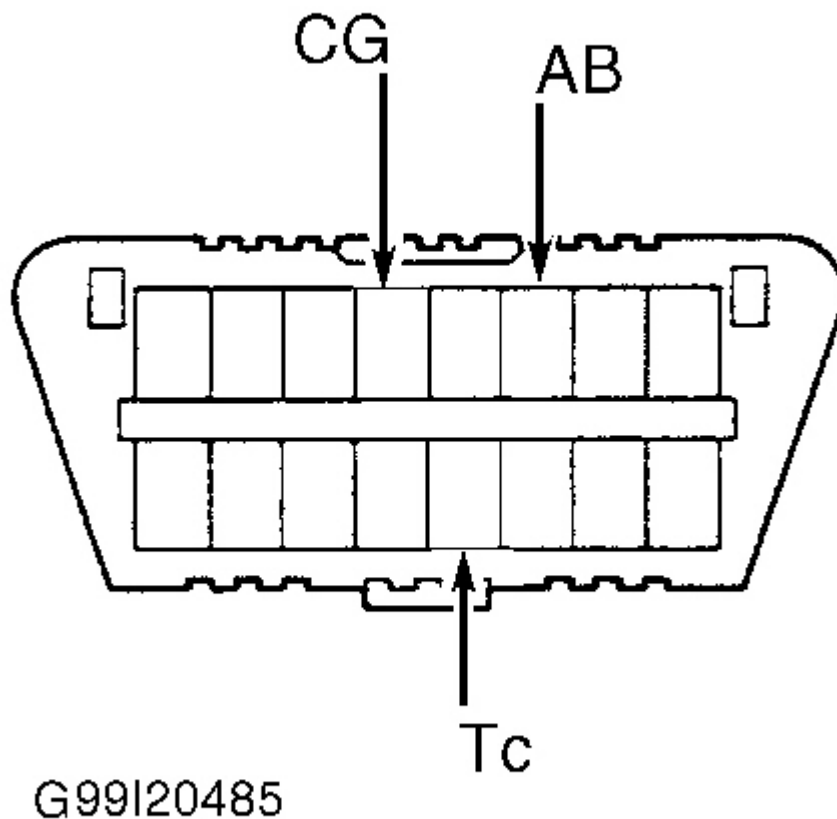
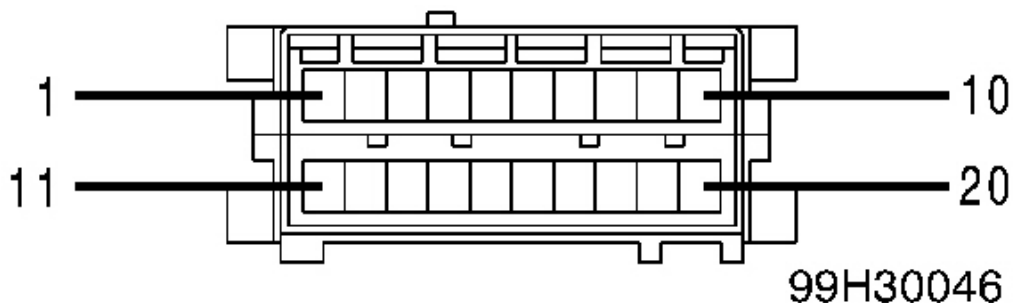
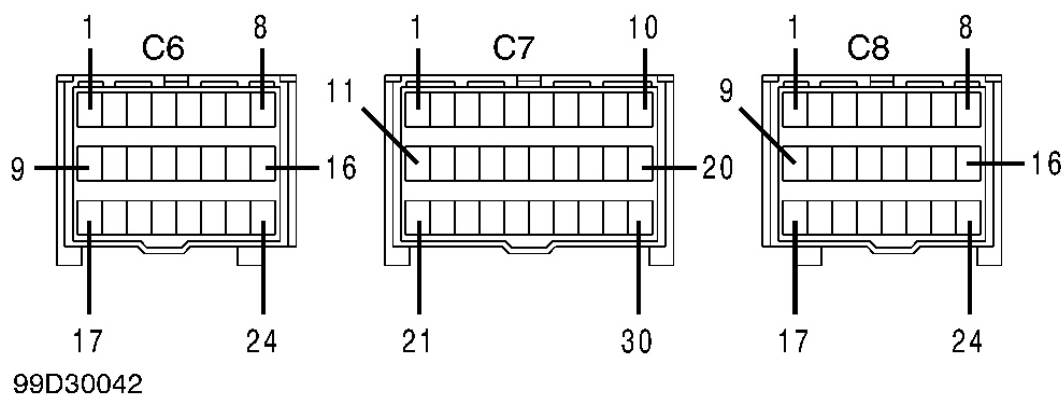

Fig. 18: Identifying Data Link Connector 3 (DLC 3) Terminals
Fig. 20: Identifying Instrument Cluster Connector C13
Fig. 21: Identifying Air Bag Sensor Assembly Connectors
1. Turn ignition switch to ON position. Wait about 20 seconds. Using Diagnosis Check Wiring (09843-18020), connect terminals Tc and CG of Data Link Connector 3 (DLC 3), located under lower left side of instrument panel. See Fig. 18.
Install Toyota hand-held tester to Data Link Connector 3 (DLC 3), located under left lower side of instrument panel. See **Fig. 18** . Read DTC by following prompts on tester. See tester operator's manual for instructions.
1. Using one jumper wire, connect one end of jumper wire to DLC 3 terminal Tc. See **Fig. 18** . Connect other end of jumper wire to ground. Turn ignition switch to ON position. Wait 3-10 seconds for DTC to begin to be output.
3. Access instrument cluster and disconnect harness connectors. Measure resistance between harness side of air bag sensor assembly connector C7, terminal No. 14 (Black/Yellow wire, circuit LA) and harness side of instrument cluster connector C13, terminal No. 7 (White wire, circuit LA). See **Fig. 20** & **Fig. 21** . Resistance should be less than one ohm. Measure resistance between ground and harness side of air bag sensor assembly connector C7, terminal No. 14. Resistance should be more than one megohm. Ensure ignition switch is in ON position. Measure voltage between ground and harness side of air bag sensor assembly connector C7, terminal No. 14. Voltage should be less than one volt. If voltage and resistance readings are normal, go to next step. If voltage and resistance readings are not normal, replace wire harness between instrument cluster and air bag sensor assembly.
3. Turn ignition switch to LOCK position. Disconnect negative battery cable. Wait at least 90 seconds. Disconnect instrument cluster harness connectors. Measure voltage between ground and harness side of air bag sensor assembly connector C7, terminal No. 14 (Black/Yellow wire, circuit LA). See **Fig. 21** . If voltage is less than one volt, replace air bag sensor assembly. If voltage is more than one volt, replace wire harness between instrument cluster and air bag sensor assembly.
1. Turn ignition switch to LOCK position. Disable air bag system. See **DISABLING SYSTEM** under DISABLING & ACTIVATING AIR BAG SYSTEM. Reconnect negative battery cable. Turn ignition switch to ON position. Measure voltage between ground and air bag sensor assembly connector C7, terminal No. 21 (Black/Orange wire, circuit IG2). See **Fig. 21** . If voltage is 10-14 volts, go to next step. If voltage is not 10-14 volts, repair or replace wiring harness between battery and air bag sensor assembly and/or repair charging system. See **WIRING DIAGRAMS** .
1. Turn ignition switch to LOCK position. Disable air bag system. See **DISABLING SYSTEM** under DISABLING & ACTIVATING AIR BAG SYSTEM. Measure resistance between DLC 3 connector terminal No. 13 and harness side of air bag sensor assembly connector C7, terminal No. 15 (Pink/Black wire, circuit TC). See **Fig. 18** & **Fig. 21** . If resistance is less than one ohm, go to next step. If resistance is more than one ohm, replace wire harness between DLC 3 and air bag sensor assembly.
3. Disconnect air bag sensor assembly harness connector C7. Disconnect right front air bag sensor connector. Connect jumper wire between Black/White wire (circuit SR+) and Brown/White wire (circuit SR-) on harness side of front air bag sensor connector. Measure resistance between harness air bag sensor assembly connector C7, terminals No. 29 (Black/White wire) and No. 27 (Brown/White wire). See **Fig. 21** . If resistance is more than one ohm, go to step 8 . If resistance is less than one ohm, go to next step.
3. Disconnect air bag sensor assembly harness connector C7. Disconnect left front air bag sensor connector. Connect jumper wire between White/Red wire (circuit SL+) and Brown wire (circuit SL-) on harness side of front air bag sensor connector. Measure resistance between harness air bag sensor assembly connector C7, terminals No. 30 (White/Red wire) and No. 28 (Brown wire). See **Fig. 21** . If resistance is more than one ohm, go to step 8 . If resistance is less than one ohm, go to next step.
3. Disconnect left side air bag sensor harness connector. Disconnect air bag sensor assembly harness connector C6. Connect jumper wire between Pink/Blue wire (circuit VUP L) and Gray/Blue wire (circuit ESL) on harness side of left side air bag sensor harness connector. Measure resistance between air bag sensor assembly harness connector C6, terminals No. 19 and 21. See **Fig. 21** . If resistance is less than one ohm, go to next step. If resistance is more than one ohm, replace harness between left side air bag sensor and air bag sensor assembly.
3. Disconnect right side air bag sensor harness connector. Disconnect air bag sensor assembly harness connector C8. Connect jumper wire between Pink wire (circuit VUPR) and Gray wire (circuit ESR) on harness side of right side air bag sensor harness connector. Measure resistance between air bag sensor assembly harness connector C7, terminals No. 20 and 22. See **Fig. 21** . If resistance is less than one ohm, go to next step. If resistance is more than one ohm, replace harness between right side air bag sensor and air bag sensor assembly.
3. Disconnect left rear air bag sensor harness connector. Disconnect air bag sensor assembly harness connector C6. Connect jumper wire between Red wire (circuit VUCL) and Green wire (circuit ESCL) on harness side of left rear air bag sensor harness connector. Measure resistance between air bag sensor assembly harness connector C6, terminals No. 20 and 22. See **Fig. 21**. If resistance is less than one ohm, go to next step. If resistance is more than one ohm, replace harness between left rear air bag sensor and air bag sensor assembly.